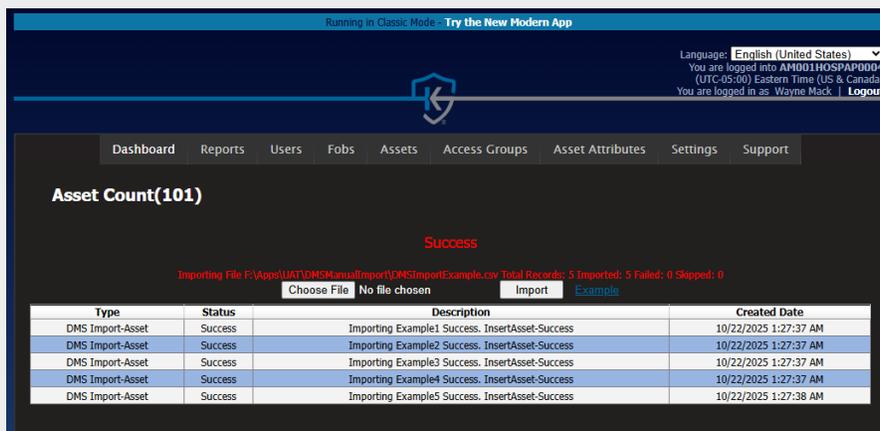

Fig. 80 – Successful DMS Import
- 🔑 A table with an entry for each imported asset will display. The **Status** and **Description** fields will show if the asset imported successfully. See Fig. 80.